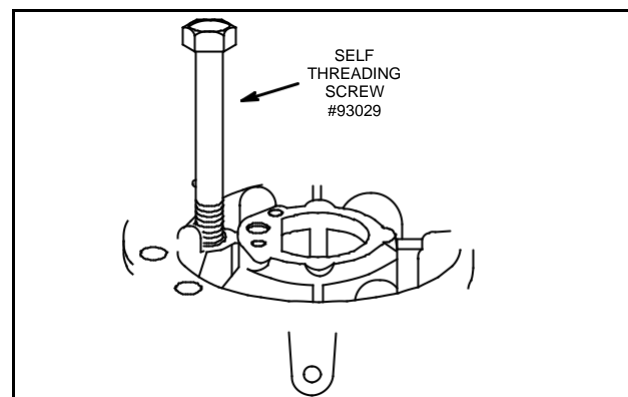

Fig. 23 – Thread Float Valve Seat
1. Thread self threading screw #93029 from #19165 flywheel puller into seat 3-4 turns, then remove it, Fig. 23.